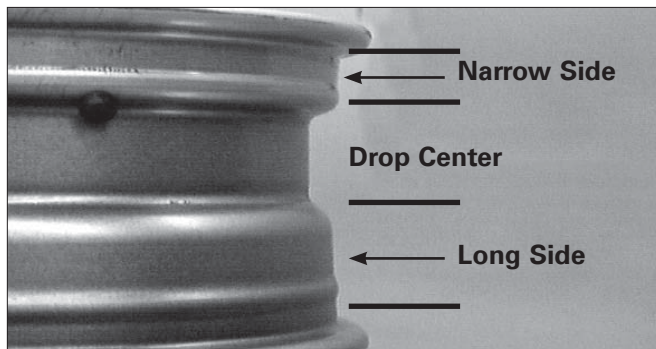

Figure 1 - Determining Tire Mounting Side
**3.** Place the tire/wheel assembly over the center post and down onto the contoured table top, with the narrow side of bead seat up (figure 1) The positioning pin must engage a lug hole in the wheel. Position the tire/wheel assembly so that the valve stem is on the operator's side of the machine.